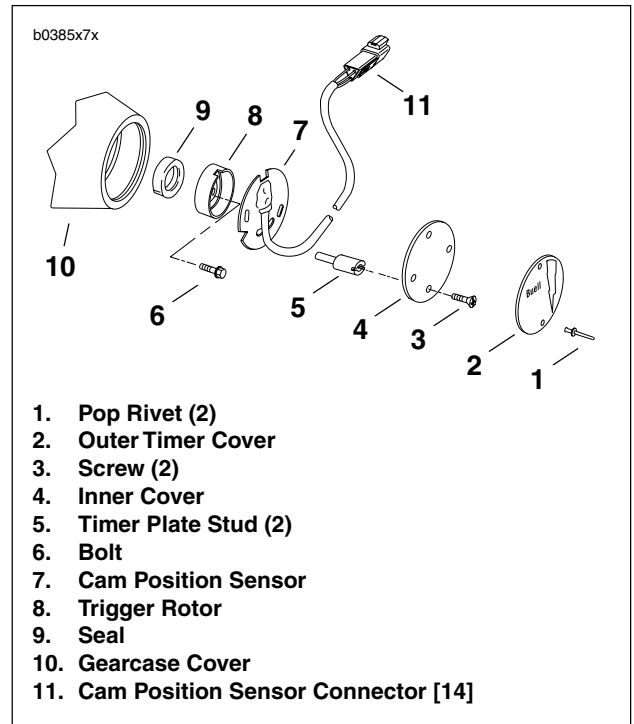
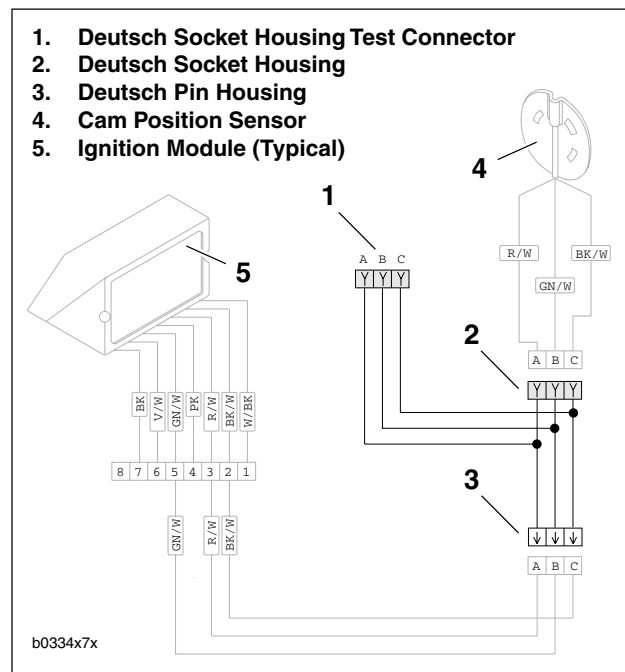

Figure 1-45. Gearcase Cover Bore
Figure 1-47. Test Harness (Typical)
1. See **Figure 1-45**. Locate outer timer cover (2) at bottom of gearcase cover (10) on right side of vehicle.
- a. See Figure 1-47. The test harness consists of two Deutsch socket housings (1, 2), one Deutsch pin housing (3) and 6.0 in. (152 mm) lengths of 18 gauge wire.
- c. See Figure 1-47. Move to right side of vehicle and connect test harness between pin and socket halves of cam position sensor connector.
- d. Using black pin probes and patch cords from HARNESS CONNECTOR TEST KIT (Part No. HD-41404), connect voltmeter between B and C terminals on test connector (1).
12. See Figure 1-45. Loosen both timer plate studs (5) and rotate the cam position sensor (7) just until the voltmeter registers the change from 5.0 VDC (+/- 0.5 volts) to 0.0-1.0 VDC.
1. See Figure 1-45. Remove pop rivets (1) and outer timer cover (2).
2. Remove two screws (3) and inner cover (4).
3. See Figure 1-45. Loosen timer plate studs (5) just enough to allow cam position sensor (7) to be rotated using a screwdriver in the plate's notch.
5. See Figure 1-45. Tighten timer plate studs (5) to 15-30 **in-lbs** (1.7-3.4 Nm).
6. Install inner cover (4) using two screws (3). Tighten to 12-20 **in-lbs** (1.4-2.3 Nm).